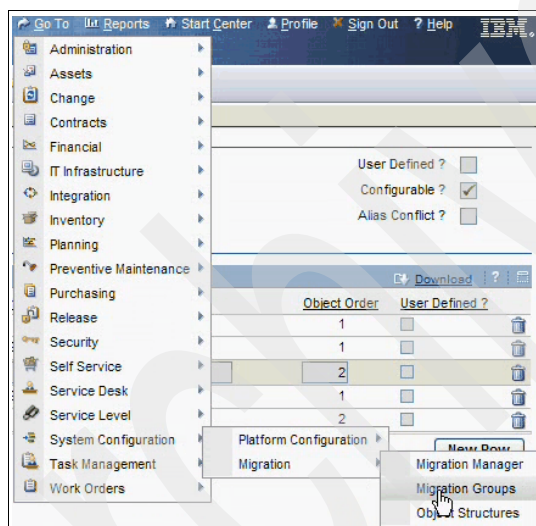

Figure 8-15 Migration menu - Migration Groups
3. From the Go To menu, select **System Configuration** → **Migration** → **Migration Groups**, as shown in Figure 8-15.